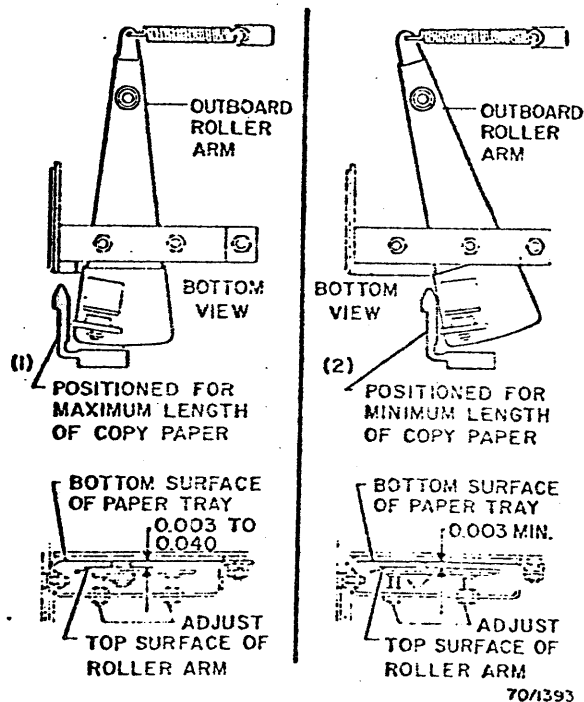

Fig. 3-29. Roller Arms
- Position the paper guides for maximum length of copy paper, and adjust the outboard roller arm to obtain the dimension shown in the left view of Fig. 3-29.
- Position the paper guide for minimum length of copy paper, and adjust the outboard roller arm to obtain the dimension shown in the right view of Fig. 3-29.